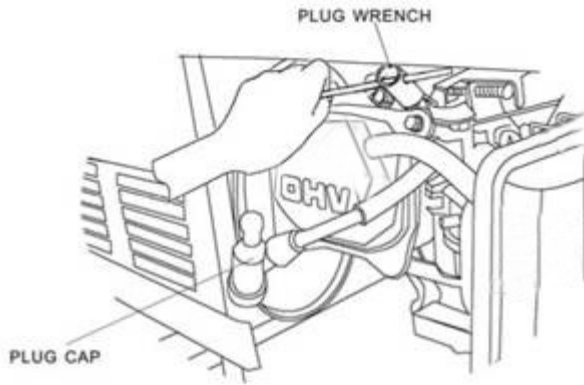

Figure 16 - Removing the Spark Plug
2. Unscrew the spark plug from this generator by using the included spark plug wrench as illustrated in Figure 16.
- Disconnect the spark plug. (See Figure 16, Removing the spark plug.)
1 year or more	Empty the fuel tank. (See "Emptying the Fuel Tank" in the "Maintenance/Care" section.) Disconnect the spark plug. (See Figure 16, Removing the spark plug.)